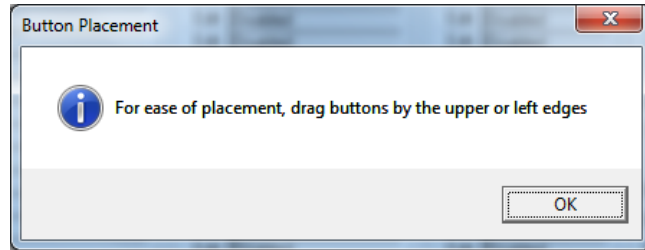

Figure 5 Button Placement
buttons from another area may move the text on the button or cause other issues. A message will appear for the first time as shown in figure 5.
8. From the screen that the button has been placed, take your mouse pointer and left click and hold the upper left corner of the button and drag it to the desired location. Note: Dragging buttons from another area may move the text on the button or cause other issues. See Figure 5.